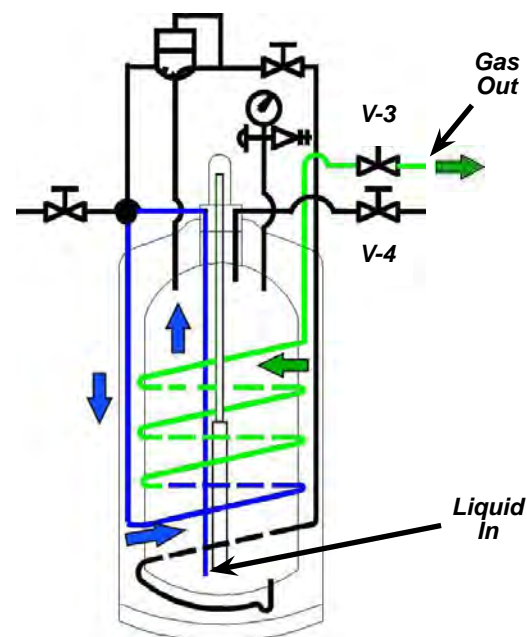

Figure 5
**Note:** In Figure 5 the liquid is drawn up the dip tube, through the top knuckle and back down through the internal vaporization coil before exiting out the gas use valve.
The vent valve is used to relieve excess pressure in the cylinder. On Perma-Cyl systems the vent valve is a gray handled globe valve (see Figure 5 V-4). When installed indoors, the vent line should be piped outdoors using 1/2" nominal copper or the equivalent stainless steel hose. The vent valve also serves as the full trycock during filling operations. When the Perma-Cyl tank is filled by trucks other than Orca™ MicroBulk Delivery System trucks, the full trycock must be used to fill the vessel. When liquid starts to spit out of this valve while being filled, the filling process should be terminated.